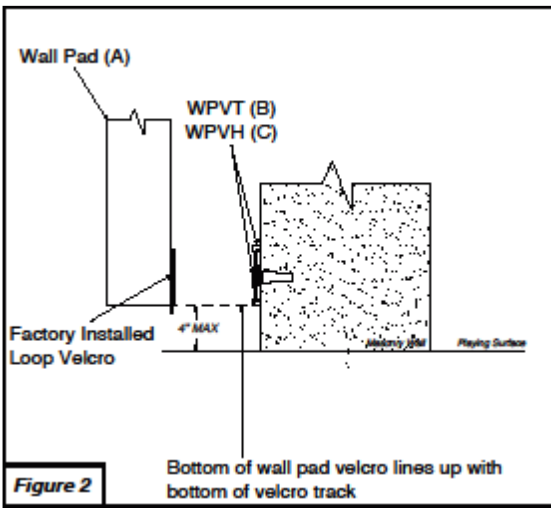

Figure 2
See Figures 2 and 3.
5. Install one *Ribbed Plastic Anchor* (E) flush into each drilled hole. See Figure 2.
6. Use the *#8 X 3/4" Phillips Pan Head Screws* (D) to attach the *Velcro Track* (B) to the anchors/wall. Make sure the edge of the *Velcro Track* (B) lines up with the factory installed loop velcro on the padding as shown. See Figure 2.